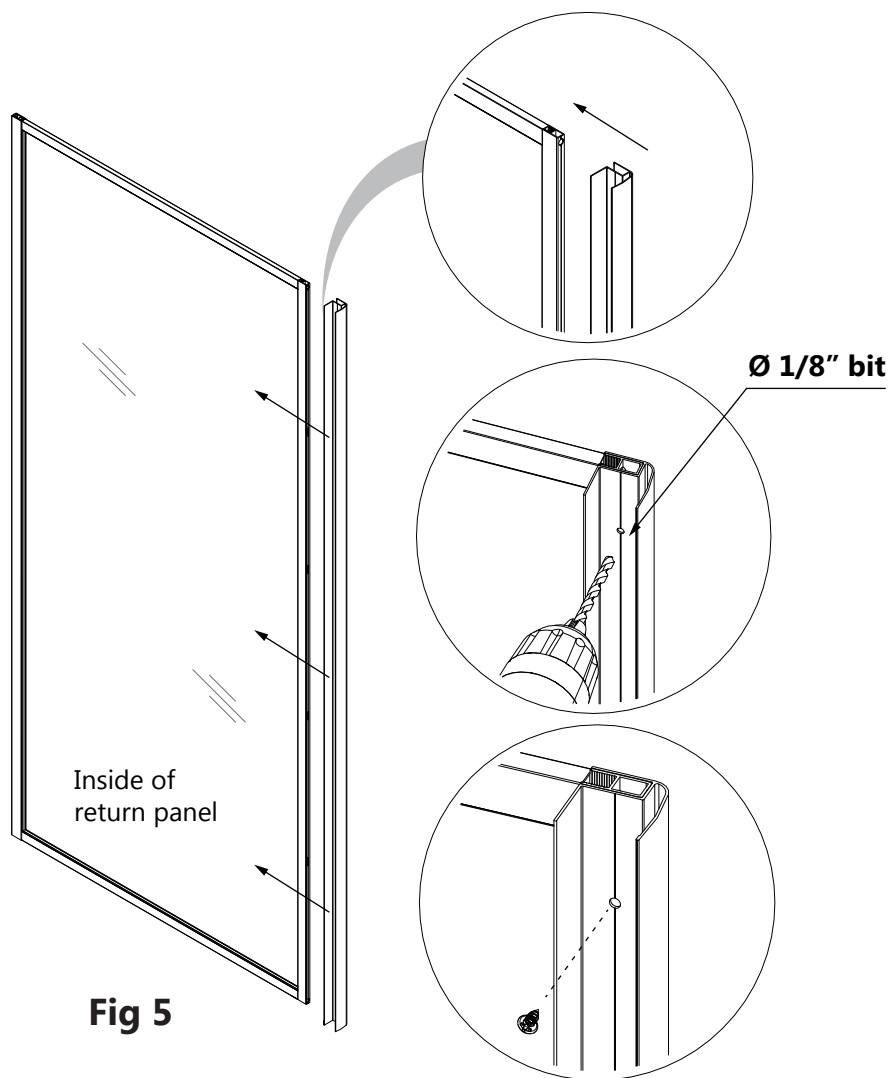

**Fig 4**
**USE THE FIRST SECTION OF THIS INSTALLATION MANUAL TO ASSEMBLE AND INSTALL THE DOOR SECTION. (Fig 4)**
**4.** Move the Door assembly onto the threshold and slide the Stationary glass profile into the **Wall profile (#01)**. **(Fig 4)**